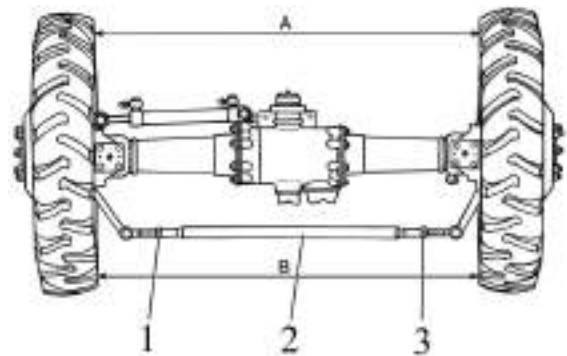

Fig. H-1 Front wheels toe-in checking and adjusting of tractors BELARUS- 1220.1/1220.3
To check and, if necessary, adjust the front wheels toe-in of the BELARUS - 1220.1/1220.3 tractors (fig. H-1), proceed as follows:
- measure the distance B (fig. H-1) between two opposite points on the rim flange behind the front axle at the height of the wheel axle.